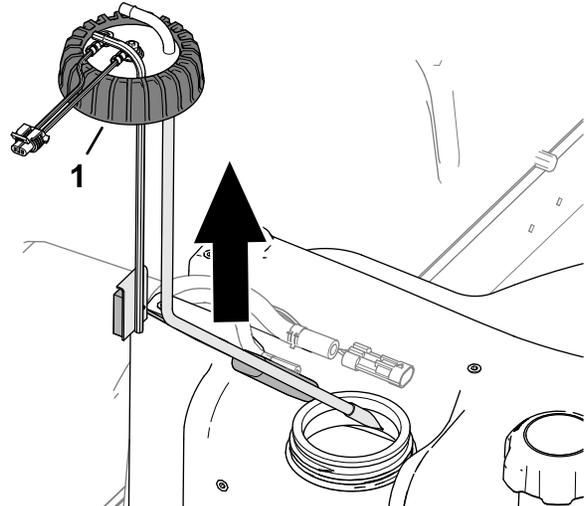

Figure 94
5. Loosen the fuel-sender cap (Figure 94).